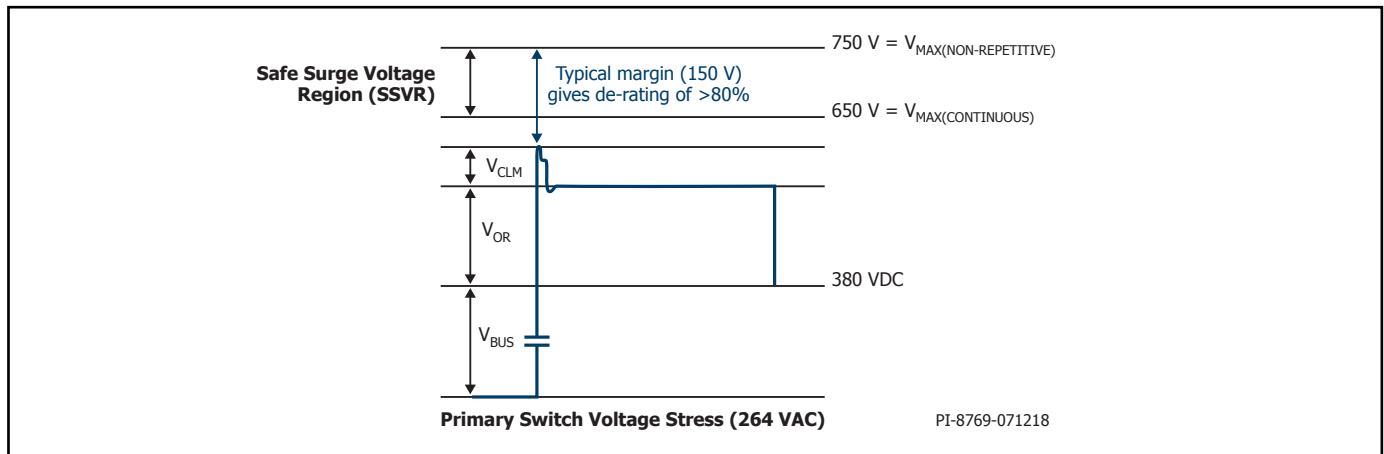

Figure 21. Peak Drain Voltage for 264 VAC Input Voltage (Applicable for LYT6079C and LYT6070C).
4. A series connection of a small resistor and ceramic capacitor ($<22\ \text{pf}$) across the primary (Figure 21) or across the secondary winding ($<100\ \text{pf}$) reduces conducted and radiated EMI. Larger capacitor values may increase no-load consumption.
For a flyback converter configuration, typical voltage waveform at the DRAIN pin of the IC is shown in Figure 21.
In addition to $V_{BUS} + V_{OR}$, the drain also sees a large voltage spike at turn off that is caused by the energy stored in the leakage inductance of the primary winding. To keep the drain voltage from exceeding the rated maximum continuous drain voltage, a clamp circuit is needed across the primary winding. The forward recovery of the clamp diode will add a spike at the instant of turn-OFF of the primary switch. V_{CLM} in Figure 21 is the combined clamp voltage including the spike. The peak drain voltage of the primary switch is the total of V_{BUS} , V_{OR} and V_{CLM} .